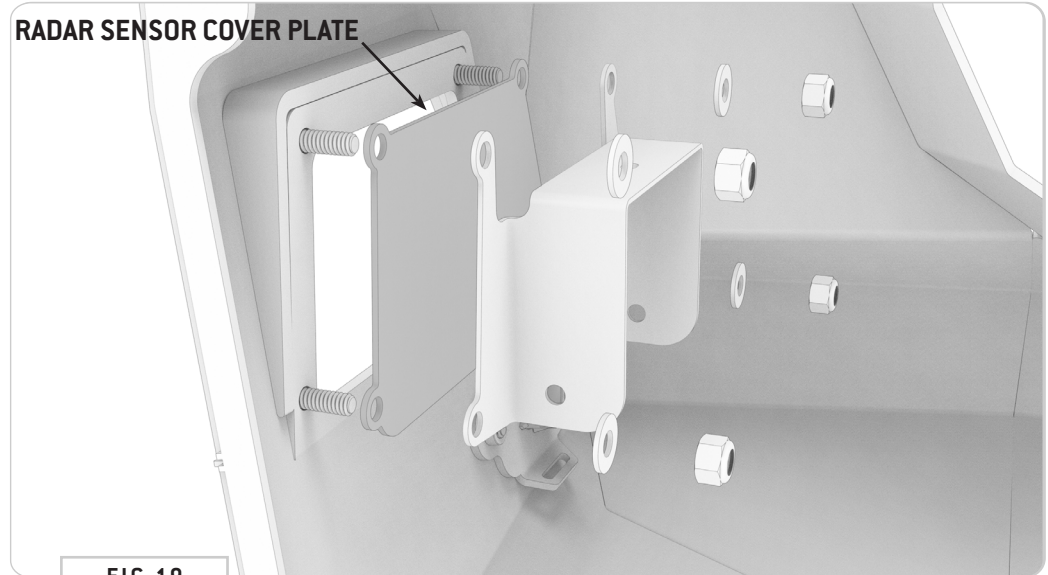

FIG 19
3.5 Disassemble Sensor Bracket Assembly: Remove the **Sensor Bracket Assembly** front the **FVC Bumper** (FIG 19). This will be used to seat your **2019-2024 Rear Adaptive Radar Sensor** (FIG 20).